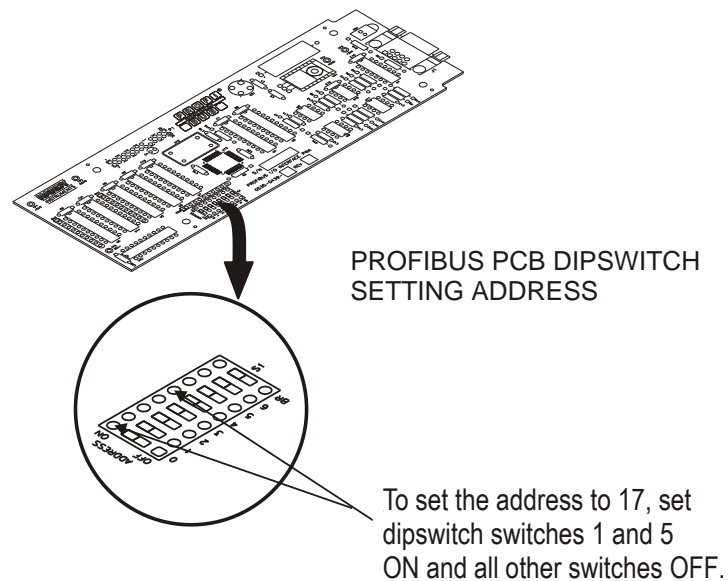

Figure 3-6
3. To set the address move the dipswitches that total the address binary number to the “on” position. For example: Address 17 requires dip switches 5 (16) and 1 (1) to be turned “on”, and all the other switches must be turned “off”. (See Fig. 3-6)